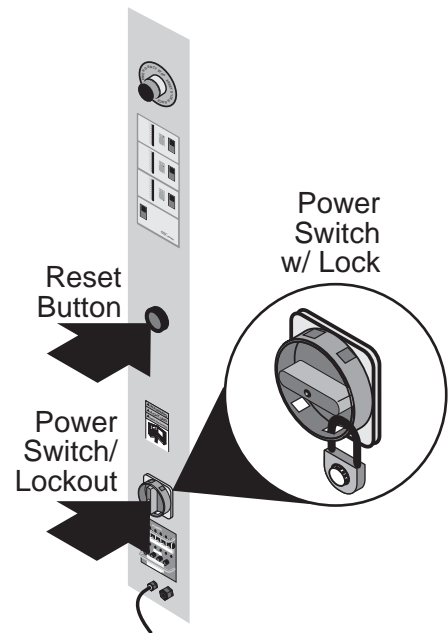

Figure 3-4: Machine Reset Button
2. Press the main machine reset button above the power switch on the back of the machine. See *Figure 3-4: Machine Reset Button*.